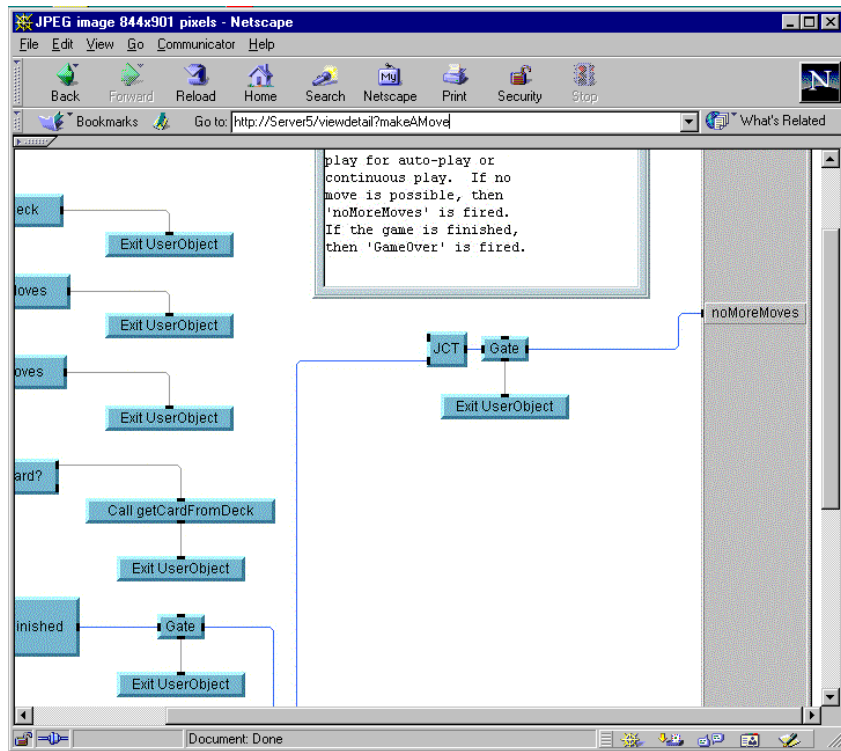

Figure 12-10. Detail View of a UserFunction Displayed in the Browser
6. The remote user goes back to the VEE Web Server Home Page once again and clicks on `Detail View` of UserFunction, and types in the UserFunction name `makeAMove`. The browser displays the UserFunction `makeAMove` as shown in Figure 12-10.
The remote user is able to see the error in the VEE program. There is an input pin not connected on the JCT object shown in Figure 12-10. The remote user could now help you troubleshoot *Solitaire.vee* and resolve the error. Using a similar process of working together over the Web, you could collaborate with remote users or develop programs together.